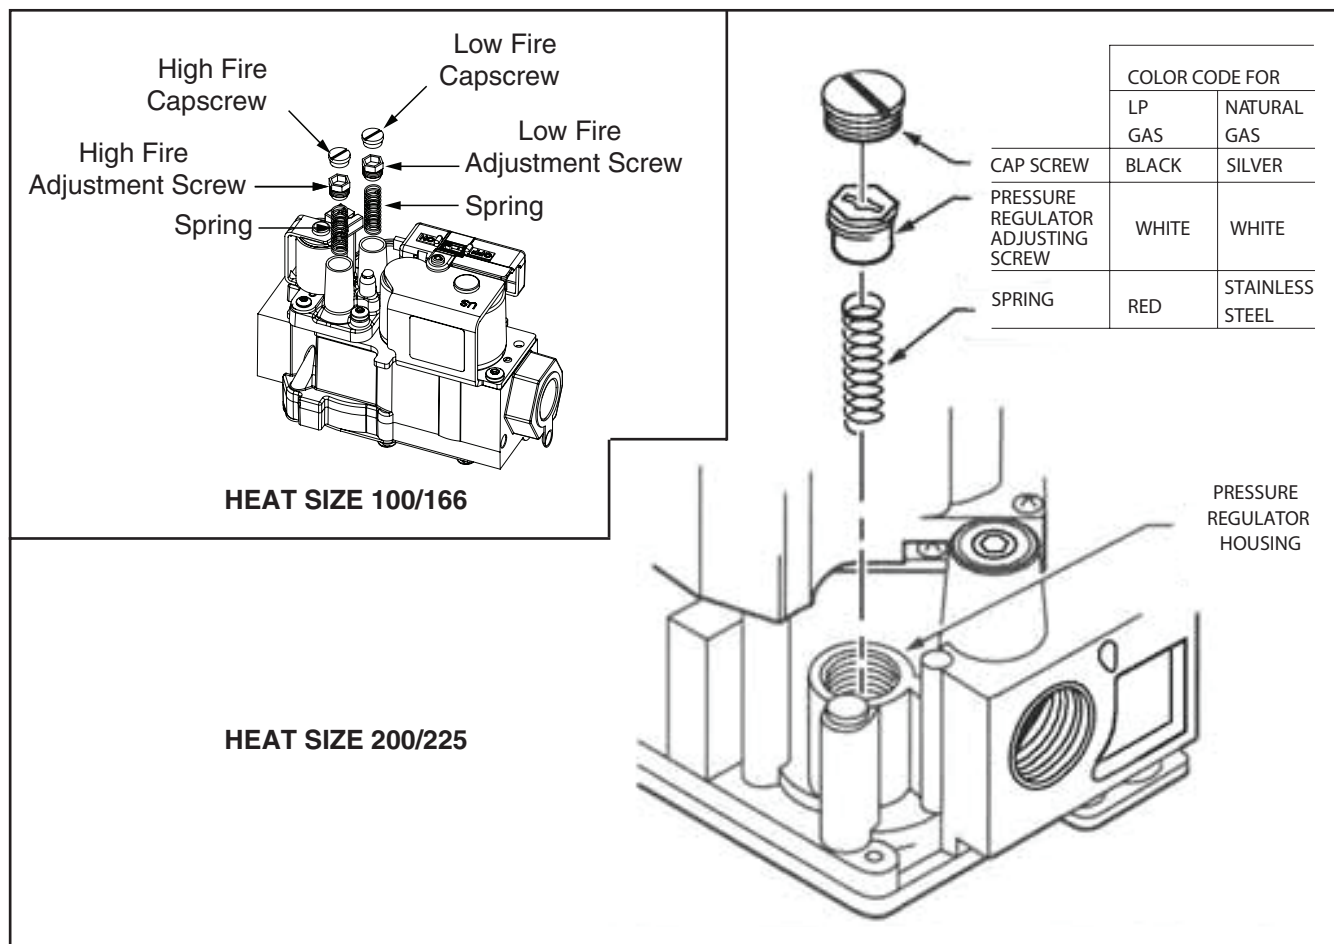

Figure 3. Typical Gas Valve Adjustment Screws and Regulator Springs
- a. Remove existing protective capscrew(s) and adjustment screw(s) (see Figure 3).
- b. Remove existing spring(s) (see Figure 3).
- c. Install replacement spring(s) from spring kit in conversion kit with tapered end down (see Figure 3).